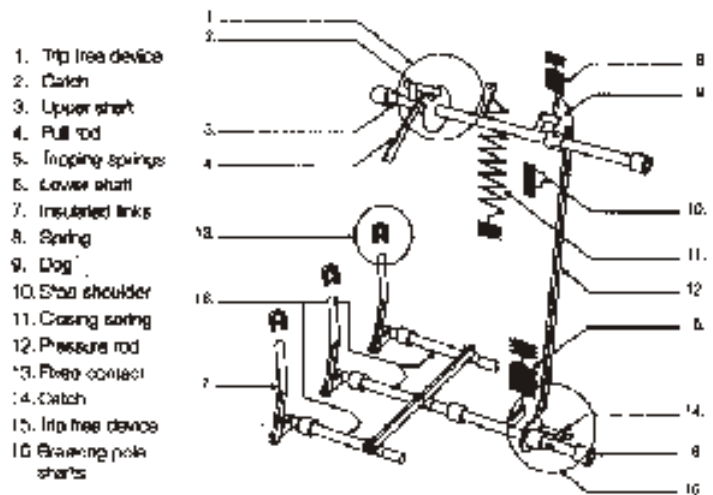

Fig 14A
Fig.14A shows the operating device with the breaker in the open position. The closing spring (11) is charged if the latch (2) is tripped, the upper shaft is released, its turning is transmitted via link (12) to the breaker pole shafts (6)
During the breaker opening, latch (14) is released, thus releasing the lower shaft which via the insulating links (7), actuates the moving contact of the breaker poles, for interruption. The spring (8) returns the link (12) with the associated driving pin and the operating device to the position in fig.14A